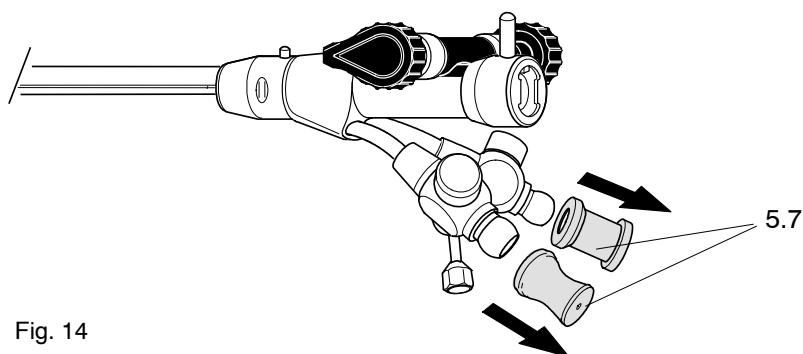

Fig. 14
- ◆ Remove sealing cap (5.7) (Fig. 14).